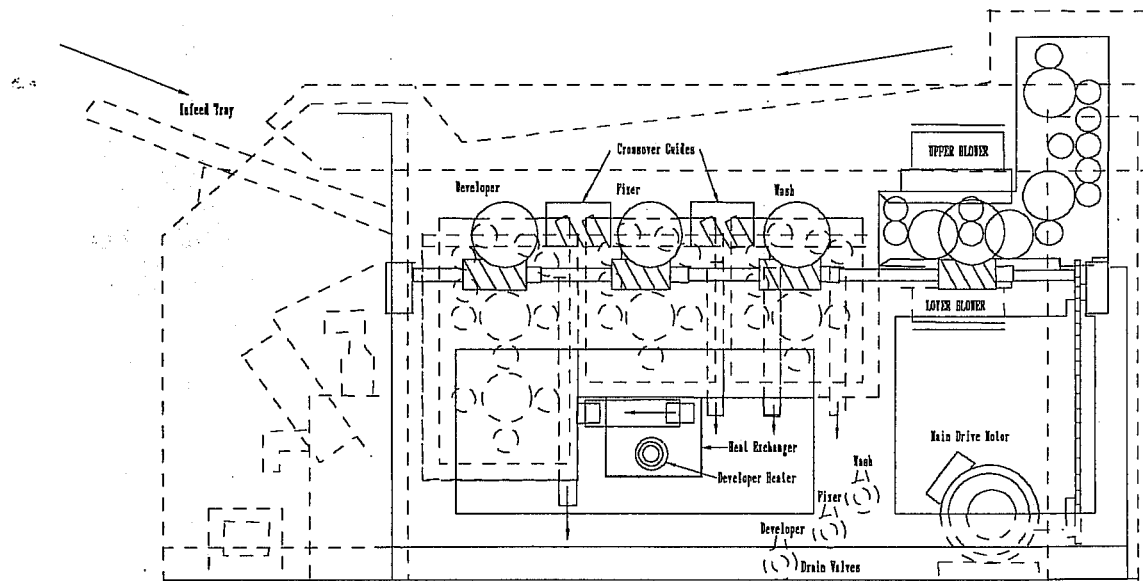

FIGURE 7-1
- 3.5 Check chemistry levels. Make sure chemicals are to top of overflow tubes. (See Fig. 7-1) Also check the chemistry level of the storage tanks.
7.1.1 Open drain valves (See Fig. 7-1)